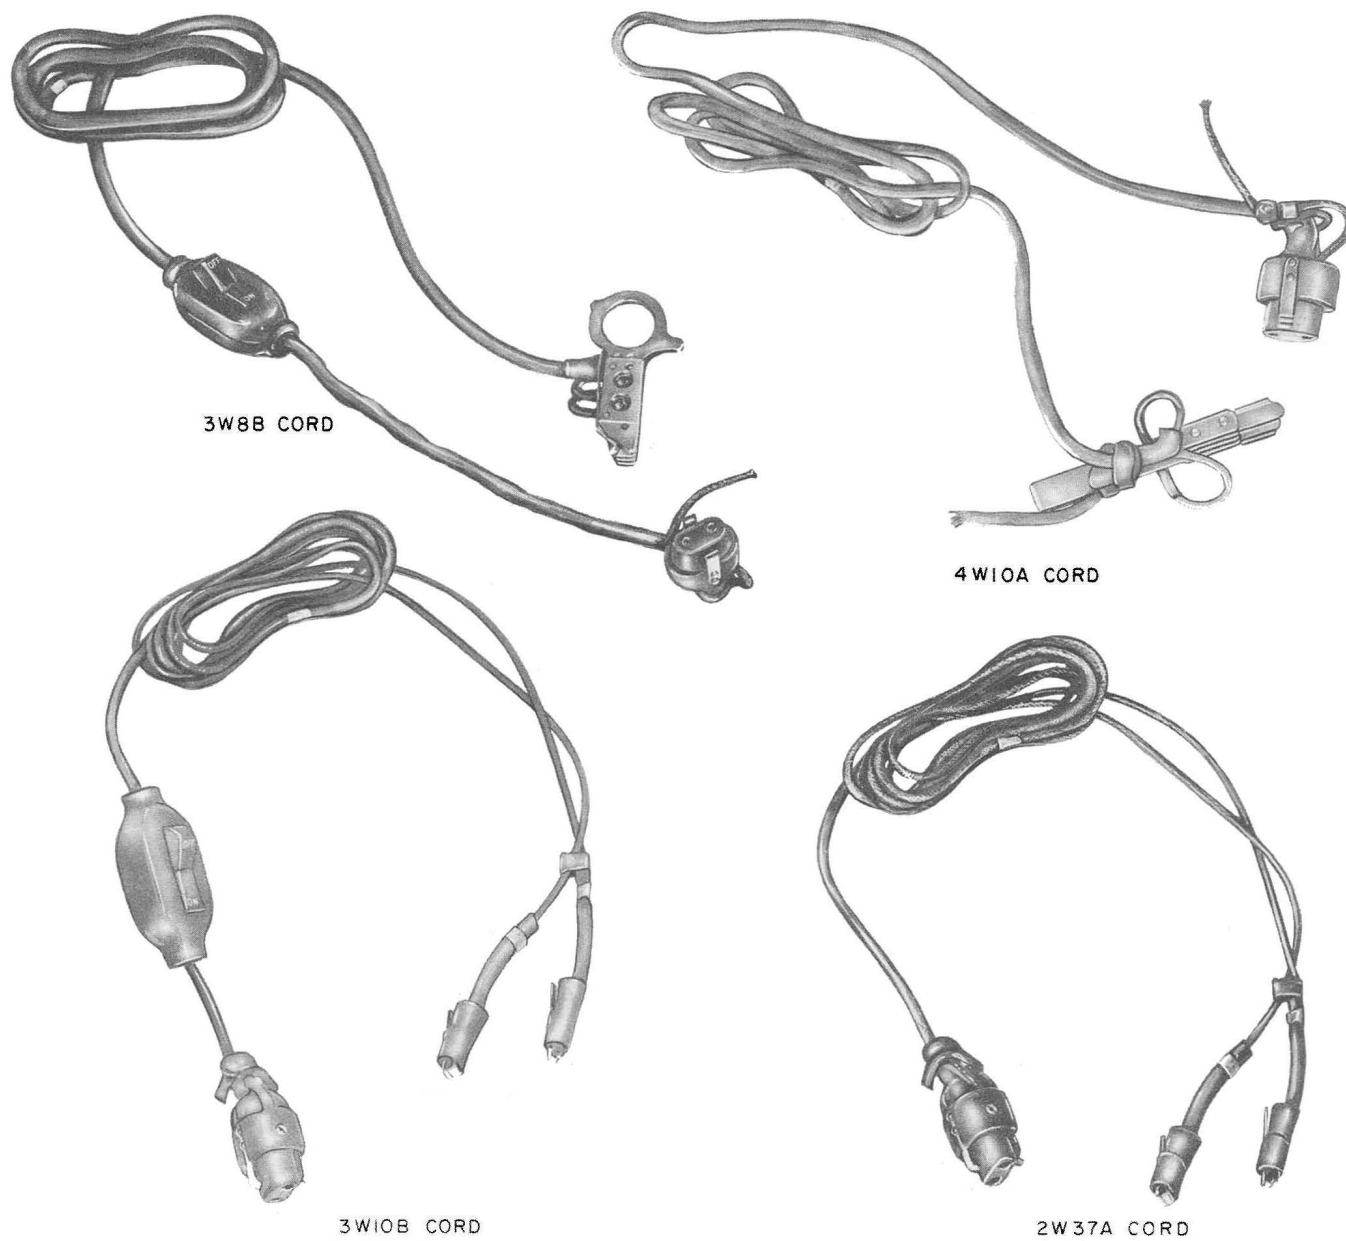

Fig. 8—Cords Associated With 1014A (Mfr Disc.) and 1014B Handsets
2.03 The 1014B handset is a general use handset and may be used with the cords illustrated in Fig. 8.
(See Fig. 8 and 9)
3.06 The 1014A (Mfr Disc.) and 1014B handsets may only be used with the cord assemblies shown in Fig. 8 and 9.